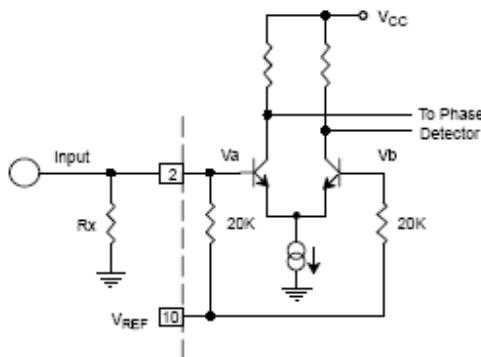

Figure 4. Desensitizing Input Stage
- f) The input to the XR-2211 may sometimes be too sensitive to noise conditions on the input line. Figure 4 illustrates a method of de-sensitizing the XR-2211 from such noisy line conditions by the use of a resistor, Rx, connected from pin 2 to ground. The value of Rx is chosen by the equation and the desired minimum signal threshold level.